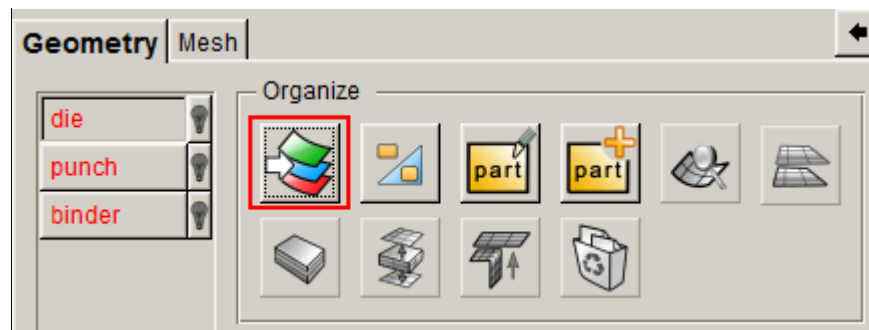

Figure 1.14 Preparation
5. The Tool Preparation dialog box is displayed. Click **Mesh→Organize→Define tool** icon in the preparation dialog box illustrated in Figure 1.14.